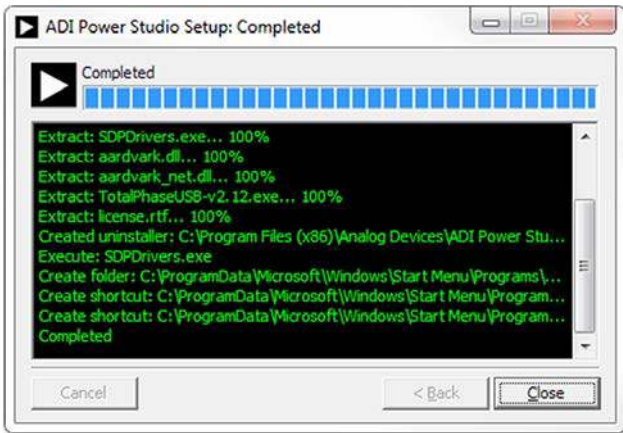

Figure 6. Installation Complete Window
- When the progress bar is 100% after clicking **Install** and says **Completed**, click **Close** to finish the installation process; see Figure 6.